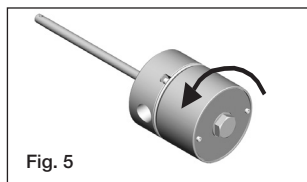

Fig. 5
- Step 1: Unscrew and remove main housing cover. (Fig. 5)
- Step 2: Unscrew and remove main housing cover. (Fig. 5)